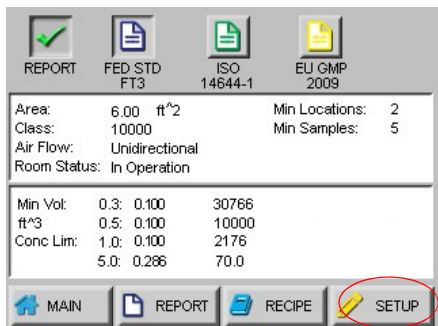

Figure 5-68 Report Setup Step 1
- Press the desired report button then press the SETUP button shown in Figure 5-68.